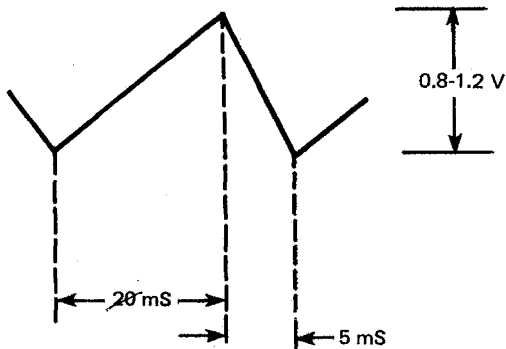

Figure 6-2. H-OUT Waveform with RATE Control Fully Clockwise
2. Confirm the presence of the waveform shown in Fig. 6-2.
4. Connect the scope probe to TP-5. Confirm the waveform shown in Fig. 6-2, but the amplitude should now be 5 to 8 V (p-p).